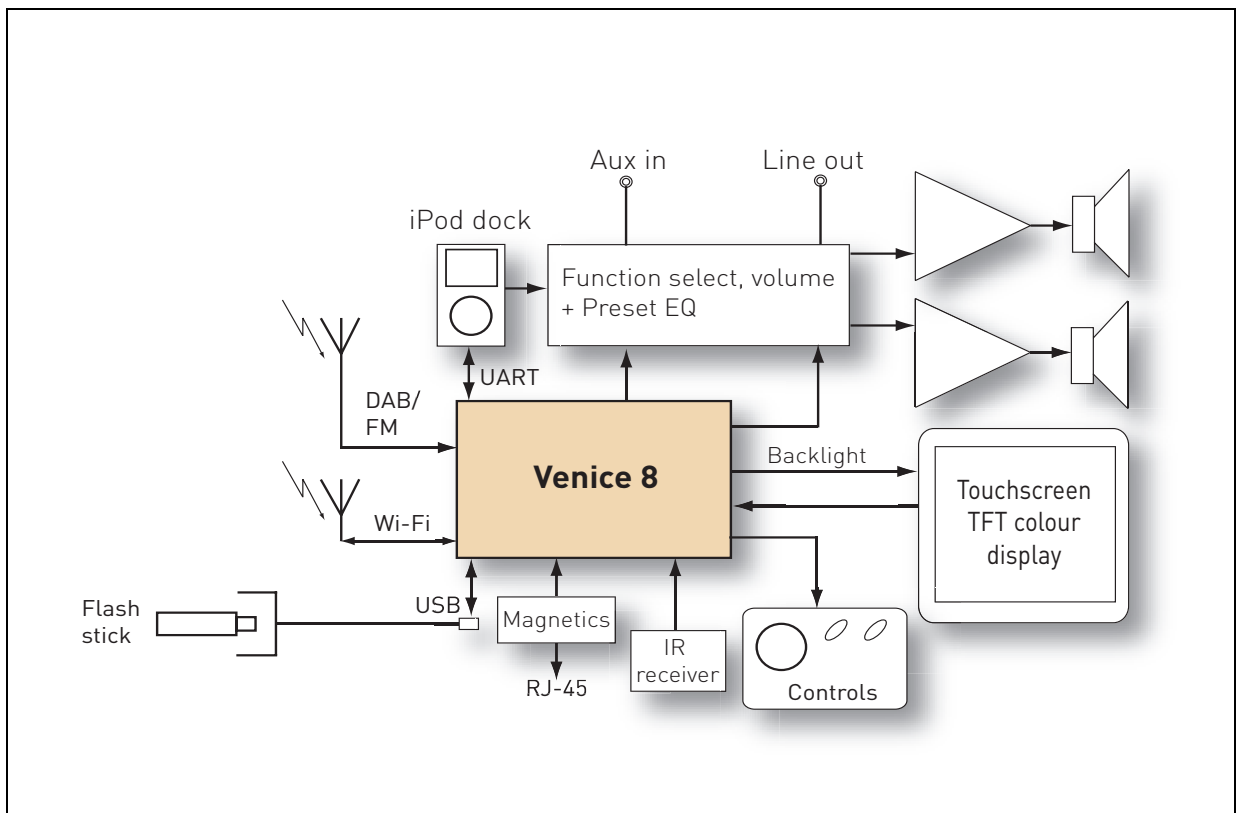

Figure 1: Example master mode implementation
*Figure 1* shows a typical implementation, with the module functioning as main system controller.
The module is intended to be used as the basis for a standalone connected audio system (see Figure 1 on page 9). The only external parts needed are a power source, antenna(s), TFT touchpad display, infrared receiver, backlight, iPod authentication, keypad (two switches), rotary encoder (optional), amplifier and speaker(s).